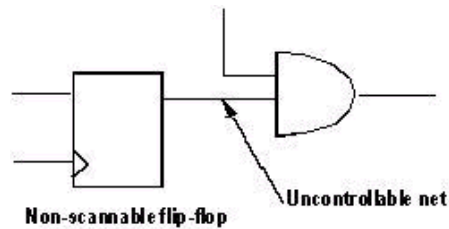
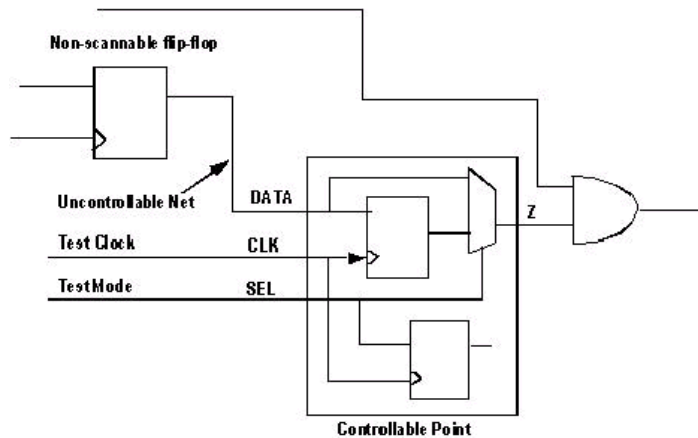

FIGURE 75. Uncontrollable Net
FIGURE 76. Still an Controllable Net
- For uncontrollable nets (as shown in Figure 75), a control point is inserted (the module structure is shown in Figure 76). The module renders the logic in the fan-out cone of the control point controllable. You cannot completely depend on the violation of the TA_06 rule for